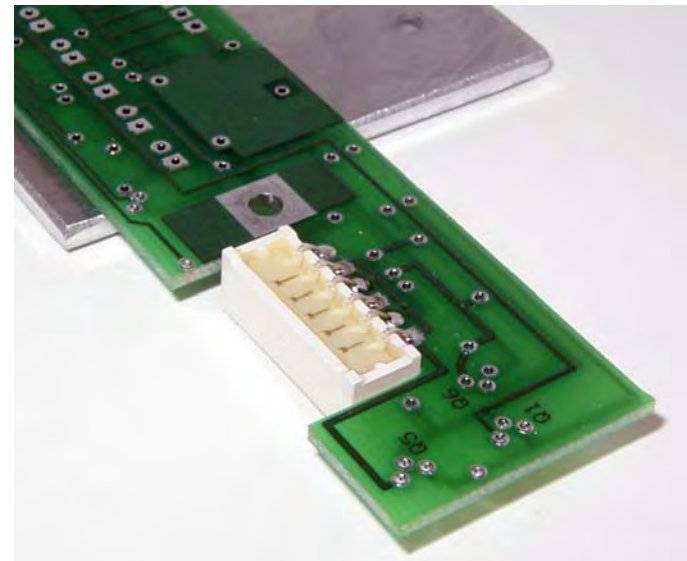

Figure 6. Installing Light Bar.
- Position the light bar in the cutout of the PCB as shown in Figure 6. Adjust the leads as necessary so they line up with the six solder pads at the edge of the cutout. The leads will *not* pass through the solder pads. The tips of the leads will rest just inside the top of each solder pad.